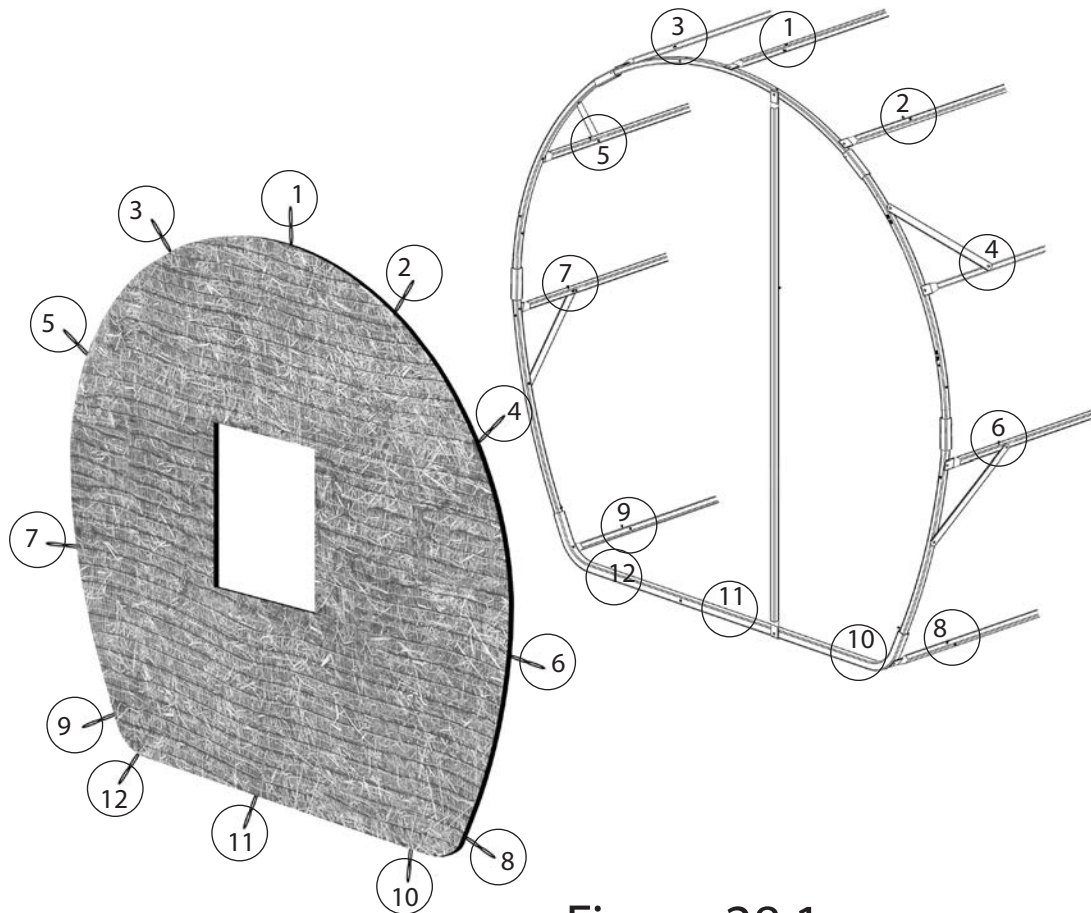

Figure 28.1
STEP 20: Locate the (1) END BLANKET "O" that will be installed on the other end hoop. Repeat Step 19 for the opposing end, attaching each bungee strap to it's corresponding set screw location, starting at the top and working downward following around the perimeter of the end hoop, as illustrated in Figure 28.1.